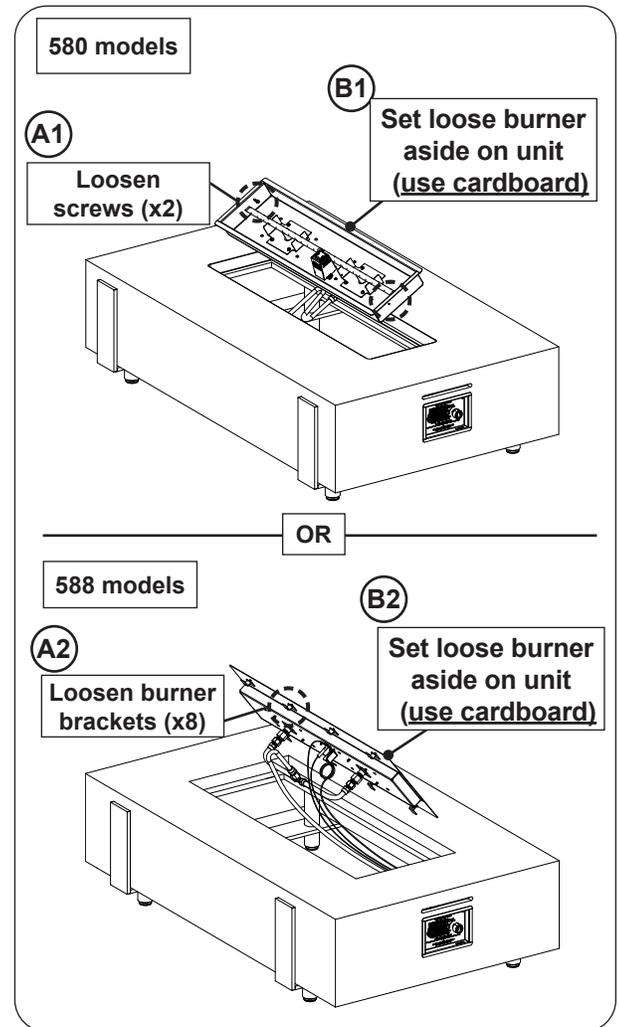

Fig. 31-2 Gain access to interior of unit
Use a $\frac{5}{16}$ " nut driver to loosen the 2 screws found on the burner assembly (see Fig. 31-2, A1). Then proceed to step 5.
Use a $\frac{5}{16}$ " nut driver to loosen the 8 screws found on the burner assembly (see Fig. 31-2, A2).
4. Carefully lift out the burner just enough to set it off to the side onto a piece of cardboard (see Fig. 31-2, B1 or B2 as applicable).